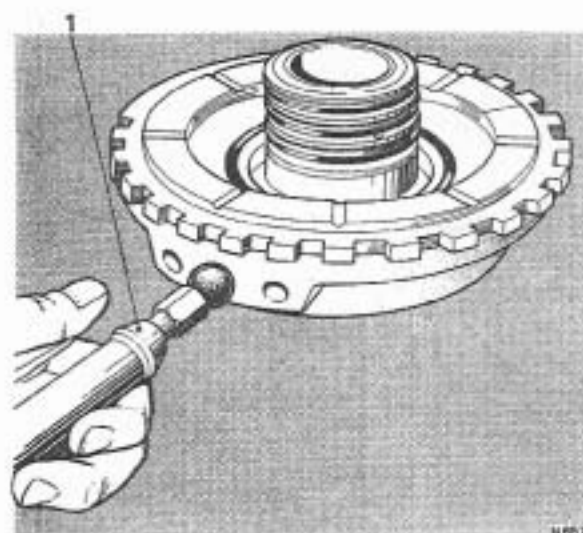

FIG. T267 AIR TESTING THE INTERMEDIATE CLUTCH
8. Air test the operation of the intermediate clutch piston. Apply an air pressure of approximately 70 lb/sq.in. (4.92 kg/sq.cm.) through the centre oil feed hole to actuate the clutch piston (see Fig. T267); the piston should be heard and felt to move.